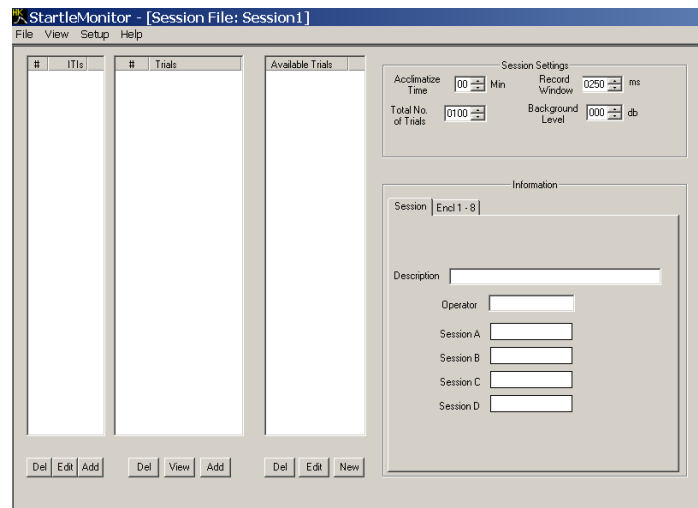

Figure 120 Session/Trial Editing Screen
1. From the main menu in *StartleMonitor* software, click on **File** and then **New**. Your screen should appear similar to Figure 120.
2. Next, create a **CalSound** trial by clicking on the **New** button in the **Available Trials** column (Figure 120).